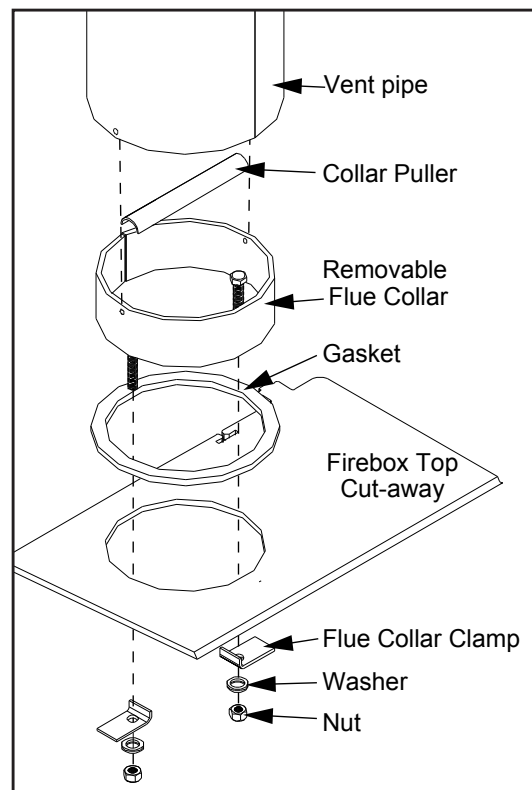

Figure 14: Attaching removable flue collar.
- a) Remove the rear two (2) secondary air tube and C-Cast Ceramic Baffles, if installed (see C-CAST CERAMIC BAFFLE INSTALLATION). Remove the secondary air tubes by placing a screwdriver (any style except flat head) into one of the air holes and tapping it with a hammer/mallet to the left.
- b) Unscrew the two (2) nuts on top of the inside of the firebox, using a $\frac{9}{16}$ " wrench or socket (see Figure 14). The Flue Collar Clamps will slide off the bolts.
- f) Place the Collar Puller, over the two bolts of the Flue Collar and pull it into place (see Figure 14). Ensure that the bolts are to the left and right of the hole. If they are not, the front secondary air tube will need to be removed in order to install or remove the C-Cast Ceramic Baffles.
- h) Re-install C-Cast Ceramic Baffles and the rear two (2) secondary air tube (see C-CAST CERAMIC BAFFLE INSTALLATION).